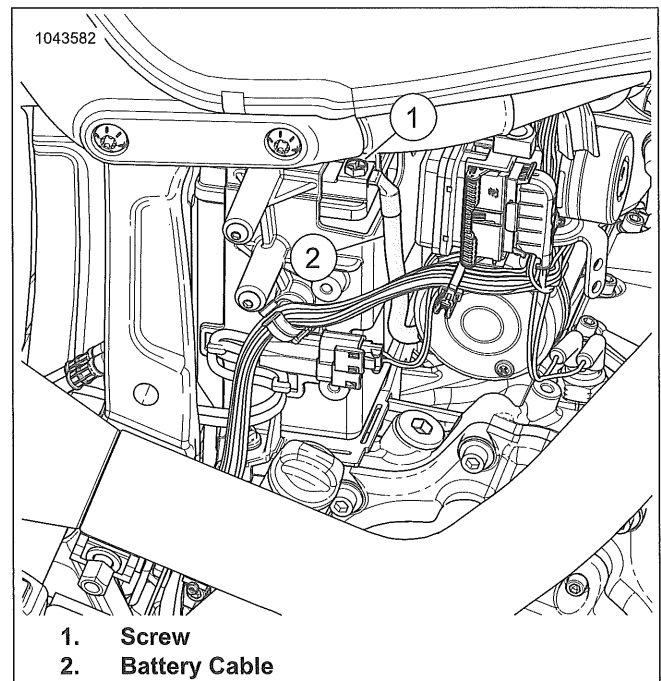

Figure 7-3. Negative Battery Cable Disconnect
3. See Figure 7-3. Remove screw (1).
4. Disconnect negative battery cable (2).
1. See Figure 7-3. Connect negative battery cable (2).
2. Install screw (1). Tighten